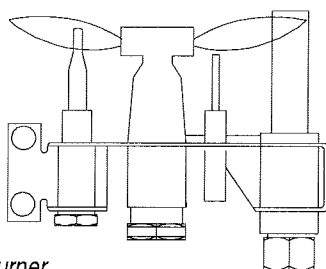

Figure 27. Pilot Burner
2. Adjust pilot screw to provide properly sized flame as shown in figure 27).